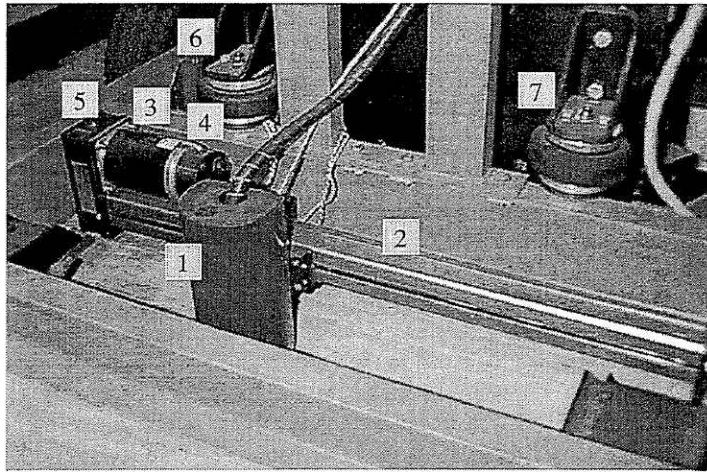

**Figure 5-1.** Laser sensor assembly, 1: laser sensor, 2: linear slide, 3: stepper motor, 4: encoder, 5: gear head, 6,7: air springs
Based on the study of a variety of sensor technologies, Krulewich and Velinsky (1992) selected a laser range finder based sensor for their crack detecting device and showed its ability to identify cracks in both Asphalt Concrete (AC) and Portland Cement Concrete (PCC) pavements. The same laser range finder sensor is attached at the front of the TMRR platform in this work as shown in Figure 5-1. The laser range finder sensor scans the road surface with a narrow line of structured light produced through a cylindrical lens. It provides a line scan of the profile of the road surface. The field of view of the laser range sensor is about 5-8 cm. Also, the laser range sensor cannot be installed close to the control point due to the physical dimension of the router unit and also due to the debris produced by the router blade. In order to cope with this limitation on the small field of view, a linear slide is provided on which the laser range sensor is attached. The laser range sensor travels back and forth on the slide in a wide range,  $\approx 50$  cm. The laser range sensor is controlled to always lie on the crack position detected at the previous sampling time, so that the sensor can detect the current crack with the small field of view. The sensor system and crack detection algorithms are detailed in Matsumoto, 1996.